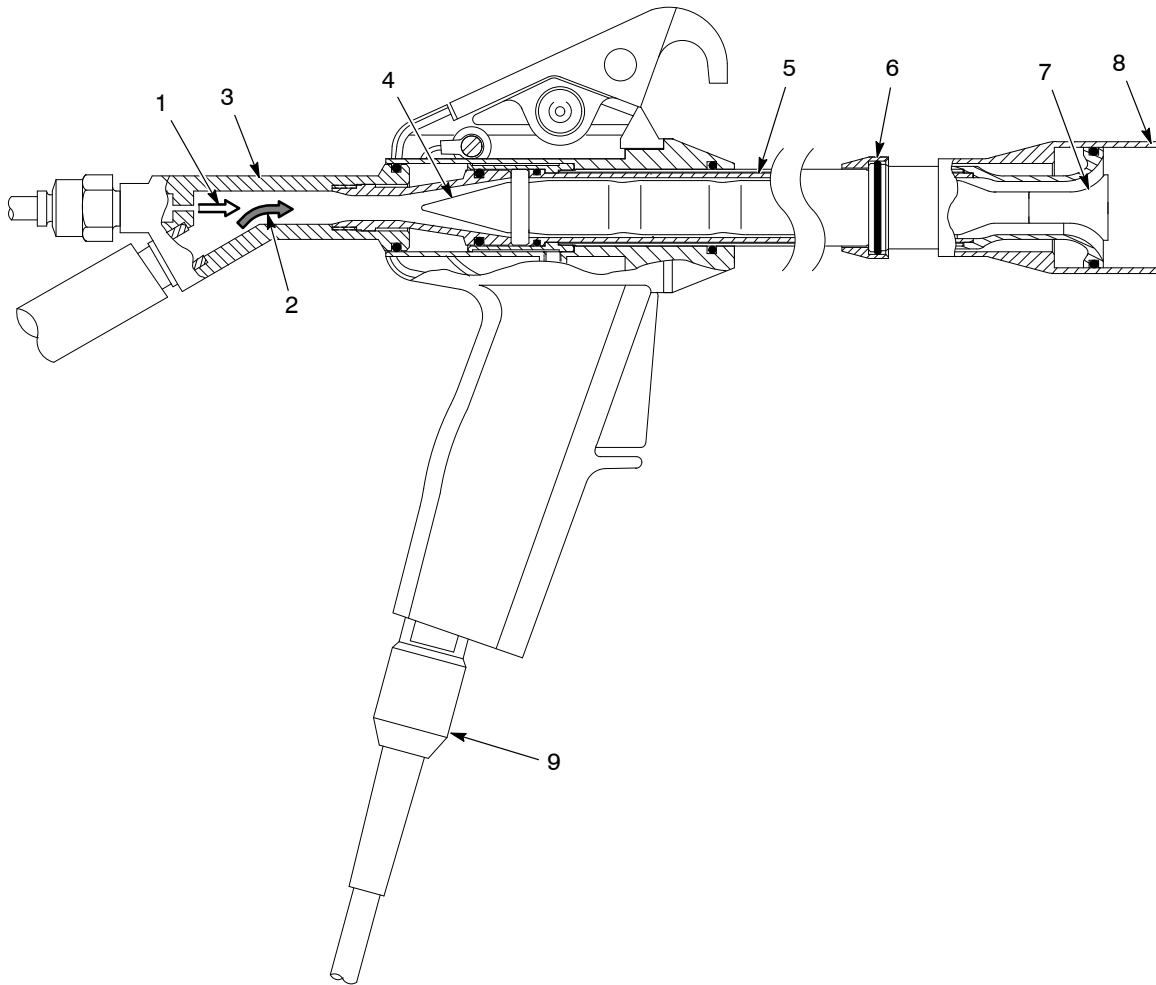

Figure 2 Cutaway View – Spray Gun Components and Operation
See Figure 2. The diffuser (3) mixes compressed air (1) with the powder (2) before it enters the charging sleeves. As the powder and air mixture flows between the inner (4) and outer (5) charging sleeves, the powder particles collide with the charge sleeve walls and receive an electrostatic charge. The sleeves receive an opposite charge that is grounded through the cable (9) and control unit. The control unit displays the grounded charge in microamperes of current. The spray gun's current output indicates the charge received by the powder.